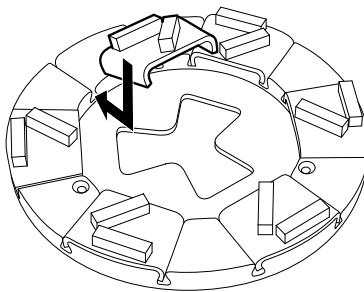

Figure 4-9 Fitting grinding tools
1. Slide the grinding tool diagonally, from above, down into the appropriate guide slot on the tool holder, see Figure 4-9 on page 21. Then push the tool fully into the guide slot.
2. Slide the grinding tool diagonally, from above, down into the appropriate guide slot on the tool holder, see Figure 4-9 on page 21. Then push the tool fully into the guide slot.